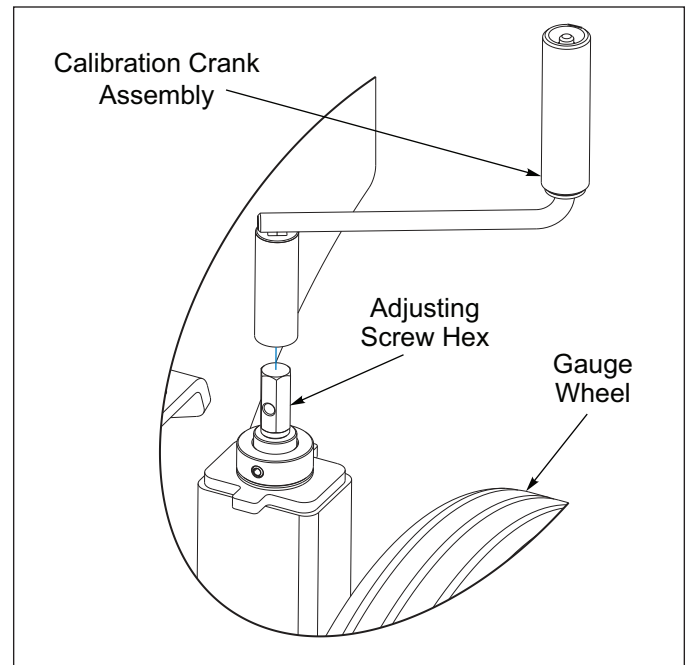

Figure 3-10: Calibration Crank Assembly
2. Place the Calibration Crank Assembly onto the Gauge Wheel Adjusting Screw Hex. **See Figure 3-10.**